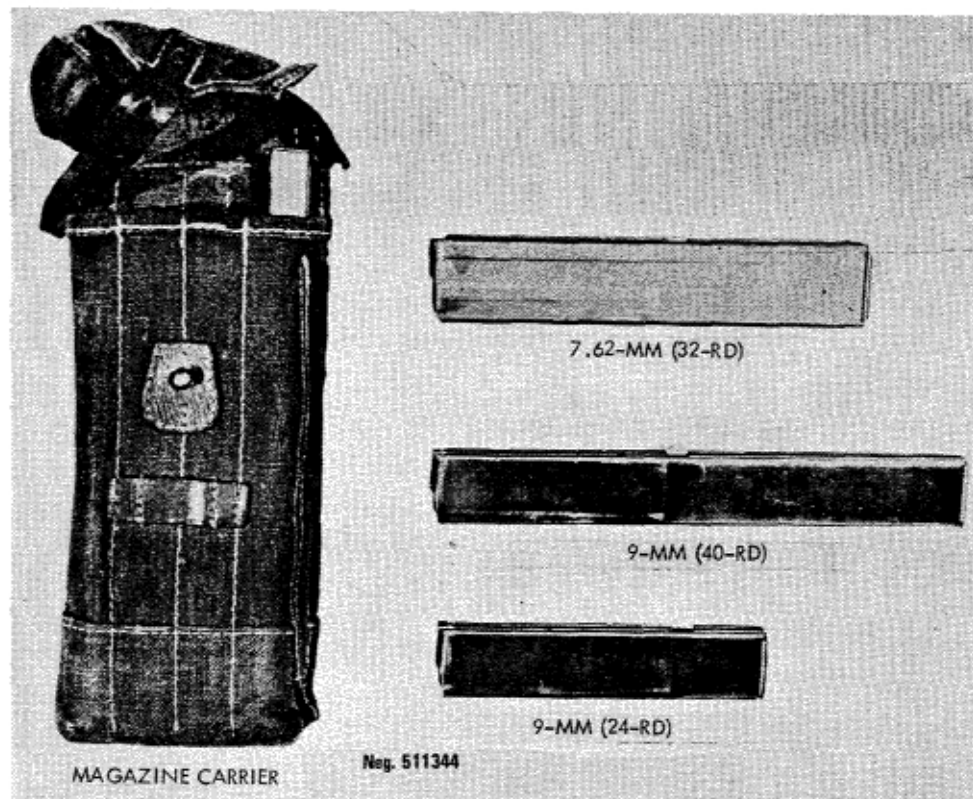

Figure 45. Czechoslovak submachinegun magazines.
b. These guns are all blowback-operated, selective fire, box magazine-fed weapons. The 9-mm magazines are made in 24- and 40-round versions; the 7.62-mm magazine holds 32 rounds (fig 45). The type of fire, fully automatic or semiautomatic, is governed by the trigger pull--a light pull fires one shot and a heavy pull fires continuously. The unusual bolt is very long and heavy; because it telescopes over the barrel, however, the overall length of the gun is quite short. An automatic safety lock (the operating handle) locks the bolt forward to prevent the gun from firing accidentally if it is dropped. An integral magazine filler is mounted on the right side of the forestock (fig 43). The Vz23 and 25 submachineguns fire 9x19-mm Parabellum-type cartridges; the Vz24 and 26 fire 7.62x25-mm pistol cartridges (sec VI).